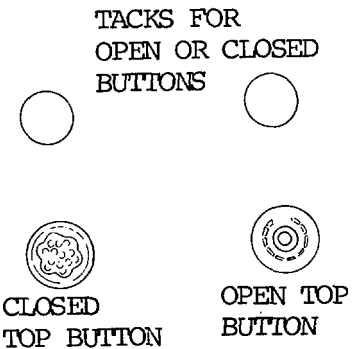

Figure 2-58. Tack Buttons
(1) Refer to Figure 2-58. Turn the screw in the base of the ma- chine to obtain the proper pinch on the material. Adjust the pinch until the button is just tight on the material. Test the pinch by operating the tack-button attaching machine.
(1) Refer to Figure 2-58. Raise the hand lever and slip the closed- top button into the upper die so that the wires on the die fit and snap firmly over the button edge.